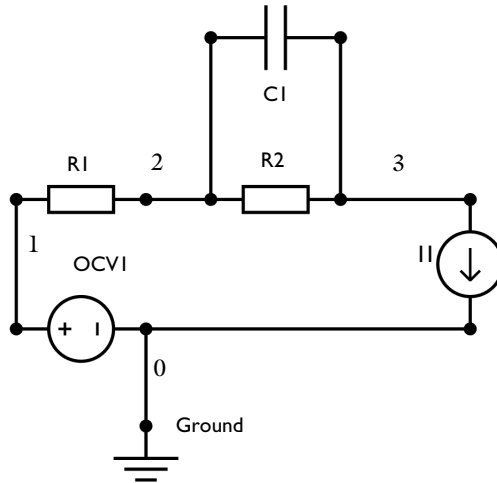

Figure 1: Equivalent Circuit diagram used for modeling the Ni-MH battery. The numbers denote the node numbers in the Battery Equivalent Circuit interface.
Figure 1 represents the equivalent circuit used in this simulation. The series resistance (R1) represents the ohmic resistance and the RC couple (a resistor-R2 and capacitor-C1 connected in parallel) represents the charge transfer polarization process. The time constant for the RC couple is assumed to be 15 s. The Battery Open Circuit Voltage node (OCV1) requires battery open circuit voltage data, E_{OCV} (V), as function of state of charge. Initial battery capacity and state of charge are also required as inputs for the Battery Open Circuit Voltage node.
The fundamental equations solved for in the Battery Equivalent Circuit interface are Kirchhoff's current and voltage laws. A current balance for each branch node (see Figure 1) is defined as: